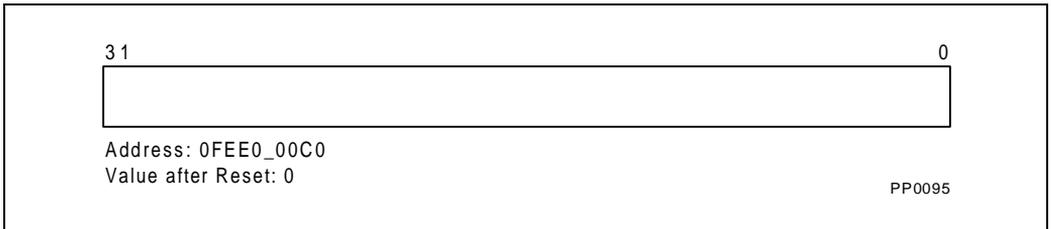

Figure 19-12. Remote Register (RR)
receiving a “Remote Read,” the target APIC responds by placing a 32-bit content of the selected register on the APIC bus. This value is read by the sending APIC and placed in its Remote Read Register (RR), which can then be read by software. See Figure 19-12. The RR is software read-only, and is valid when the Delivery Status in the ICR becomes “Valid”. See “Remote Read Status” in section 19.3.1.8.